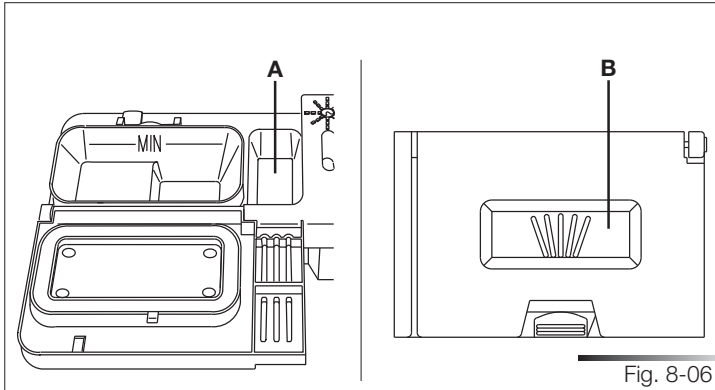

Fig. 8-06
- When a program with hot prewash is selected (see table 3-02a), extra detergent must be placed in the cavity (ref. A or B fig. 8-06, depending on models).